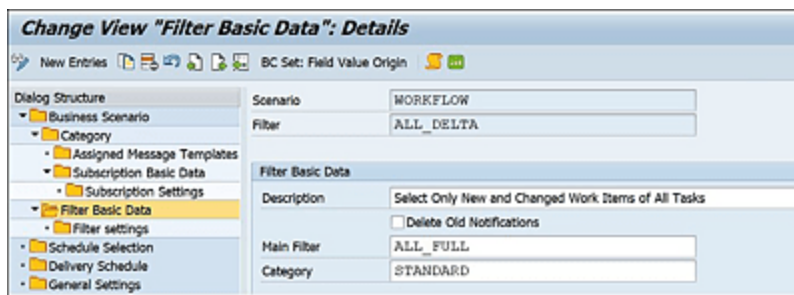

Figure 7.20 Delta Filter
4. For the delta filter, under the **Filter Basic Data** node, the **Main Filter** value should be filled with the **Full** filter that just got created. This will ensure that they both interact as a pair. You can see the delta filter in Figure 7.20.